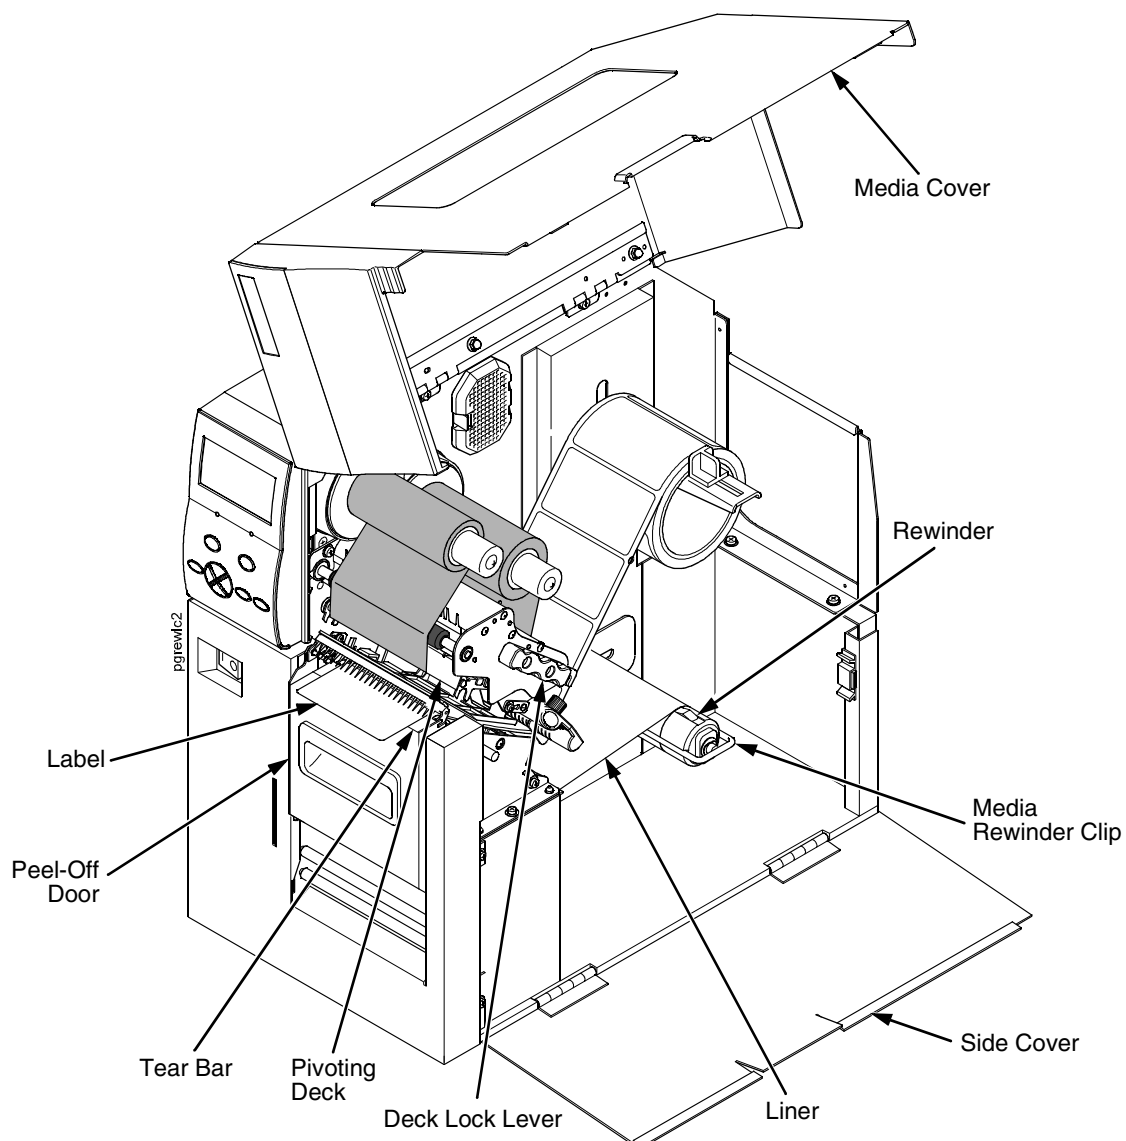

Figure 14. The Rewinder In Peel-Off Mode
18. Press the  (Feed) key. The label advances to the peel-off position, and "LABEL READY Remove Label" displays on the LCD. The liner remains on the rewriter. See Figure 14.